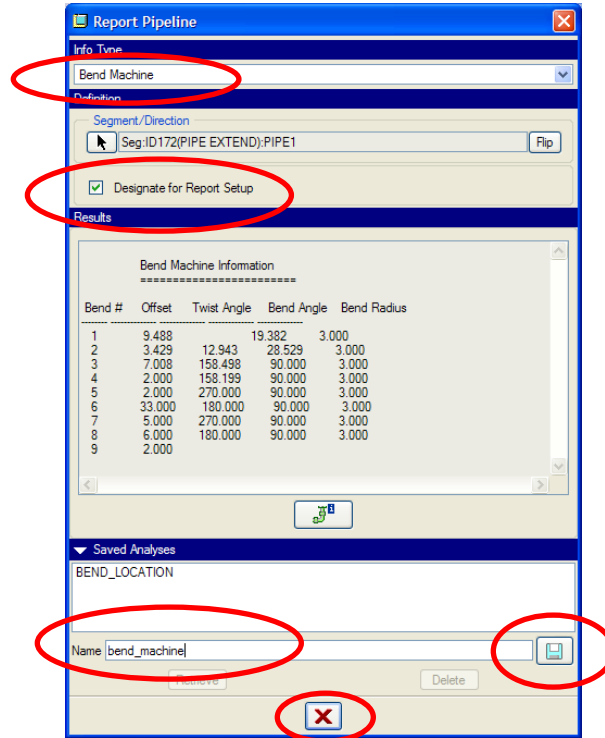

Figure 21
4.8.4 Select the “**Designate for Report Setup**” checkbox. Under the “Saved Analyses” section, (click the arrow to expand if needed) type “**bend_location**” in the “Name” text box and click the **Save** icon. (See Figure 21)
4.8.5 In the “Info Type” section, select “**Bend Machine**”. (See Figure 21)
- 4.8.7 Select the “**Designate for Report Setup**” checkbox. Under the “**Saved Analyses**” section, (click the arrow to expand if needed) type “**bend_machine**” in the “**Name**” text box and click the **Save** icon. Click the red “**X**” to close the window. (See Figure 21)